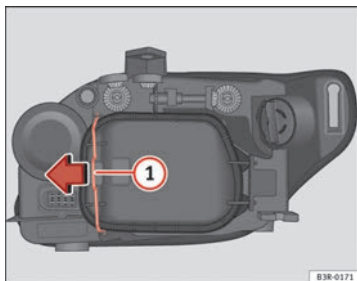

Fig. 197 Side light bulb (inside of vehicle)
- Move the brace ⇒ fig. 197 ① in the direction of the arrow and remove the rigid cover, separating the brace side and then removing the two tabs from the other end of the cover.